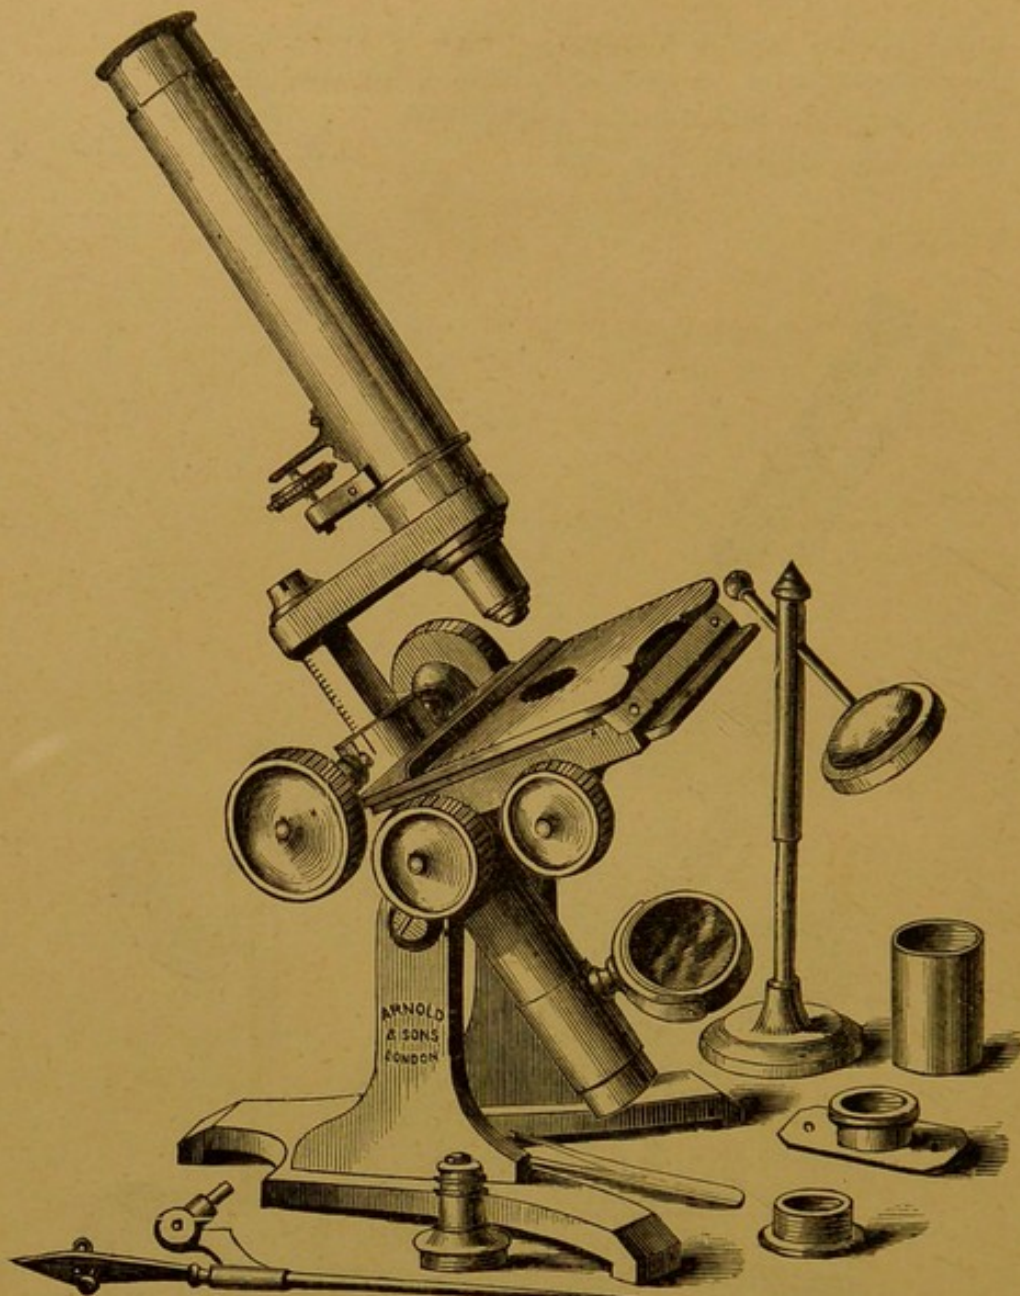

Fig. 354.
- No. 8. Improved Microscope (Arnold & Sons'), with coarse and fine adjustments, solid brass stand, with rack and rotary stage, large mirror, revolving diaphragm, C eye-piece, $\frac{1}{4}$ -inch and 1-inch best achromatic object glasses, stand condenser, live box, stage and dissecting forceps, in mahogany cabinet, complete, Fig. 354 £9 9 0